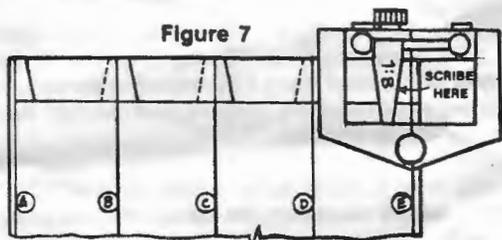

Figure 7
7) Release the blade and relock it against the opposite (left) stop. (Figure 7) Apply the Dovetail gauge centre line to line B and scribe along the right side of the tapered blade. Now repeat this procedure on lines C, D, and E. Mark the waste to be removed (pin sockets) on the workpiece to ensure sawing on the waste side.